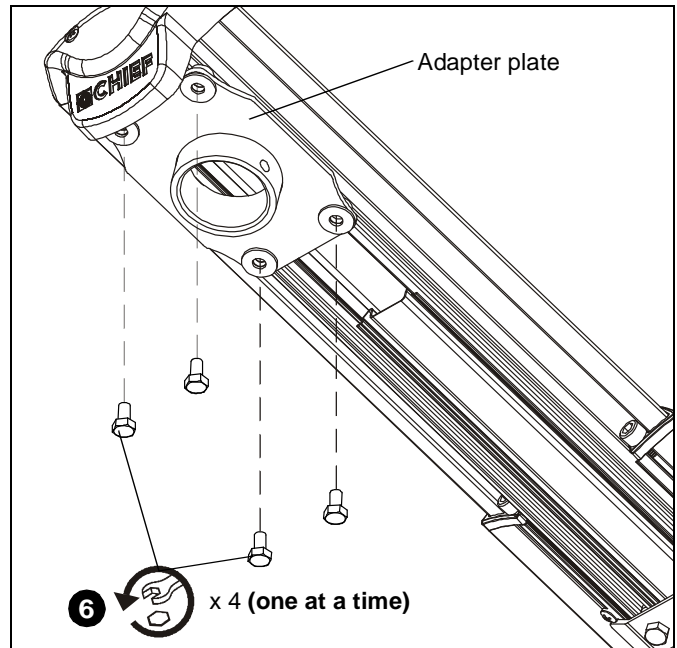

Figure 25
6. Remove one of four bolts from adapter plate. (See Figure 25)